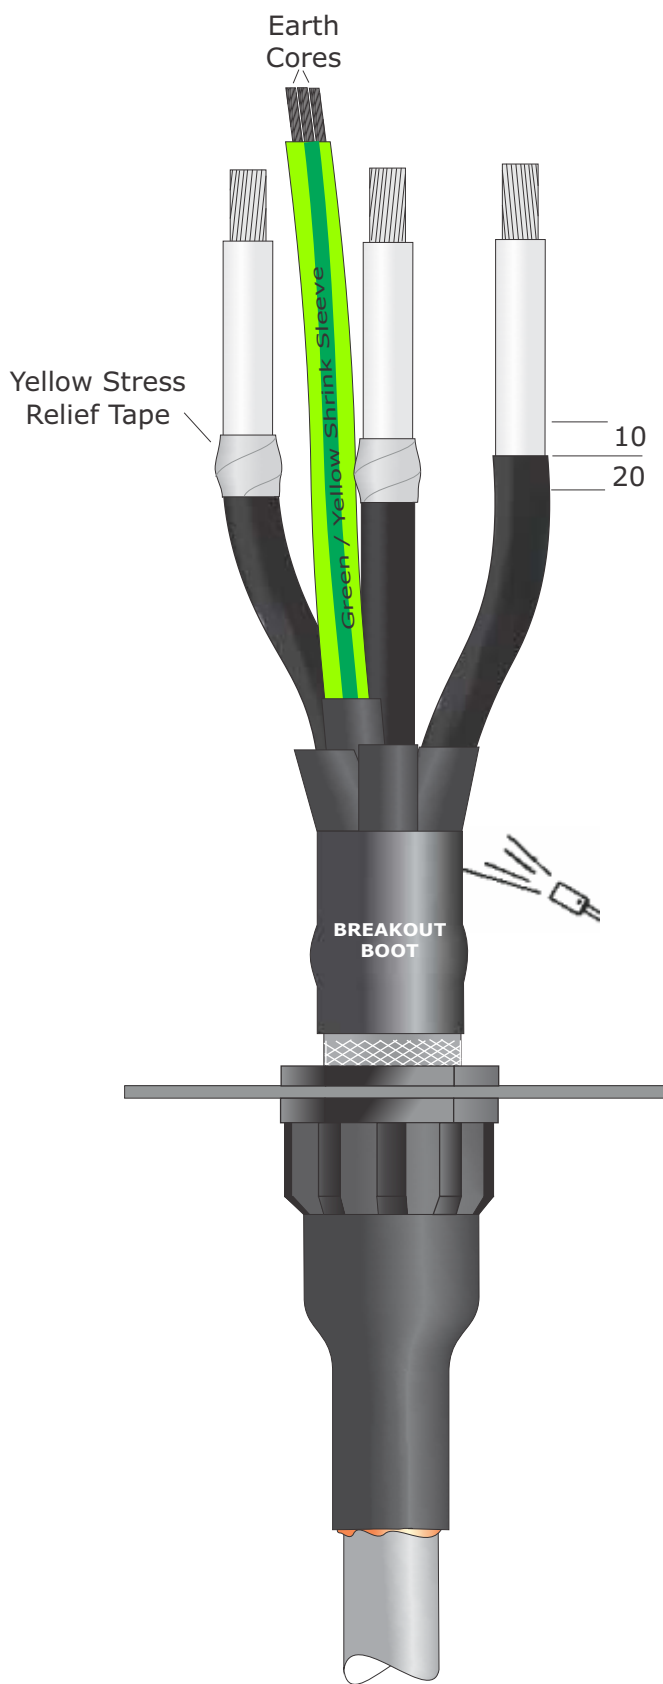

Fig 3
7. Clean the cores thoroughly with the tissues provided or other suitable solvent. Now take the yellow stress relief tape, stretch and apply a piece over each semi-conductive screen end and extend onto the primary insulation by 10mm and onto the semi-conductive layer by 20mm as shown in Fig 3.